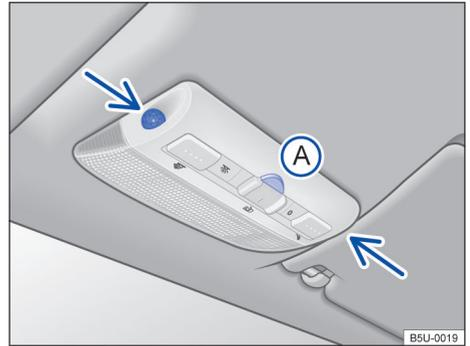

Fig. 46 On the roof console: sensors for the interior monitoring system and button (A) to turn off the interior monitoring system.
The interior monitoring system triggers the alarm with the vehicle locked in case movement is identified inside the vehicle. Both the sensor and receptor are located in the scan lamp set → Fig. 46 (arrows).
- Press → Fig. 46 (A). The indicator lamp  lights up on the dash panel.